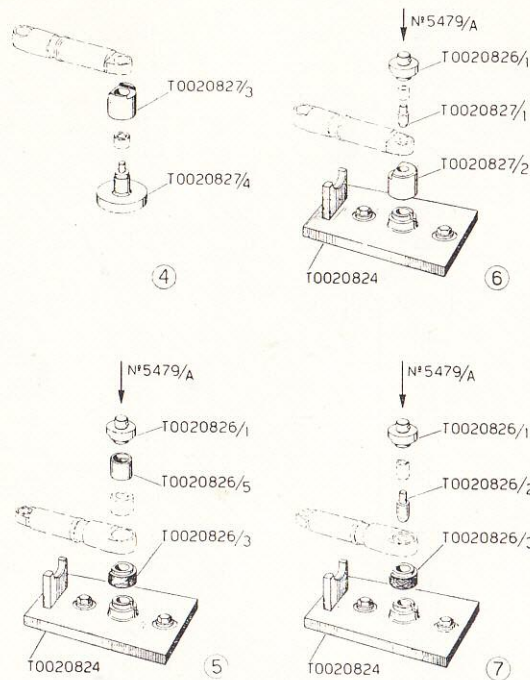

Fig. 107b.
7. If the rubber bushes are to be changed, the instructions shown in Fig. 107b, Nos. 4-7 should be followed.